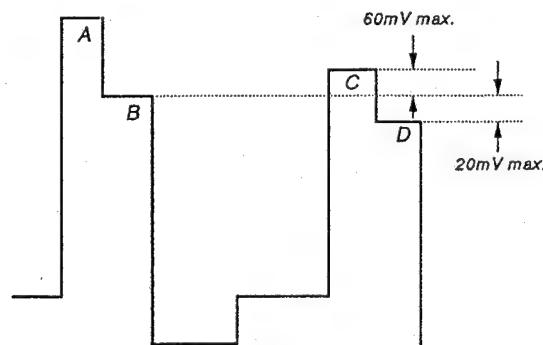

Fig. 14
- 4) Using **R-Y LEVEL NTSC 358**, adjust so that the tops of the waveform line up as in the diagram below. (Fig. 14)